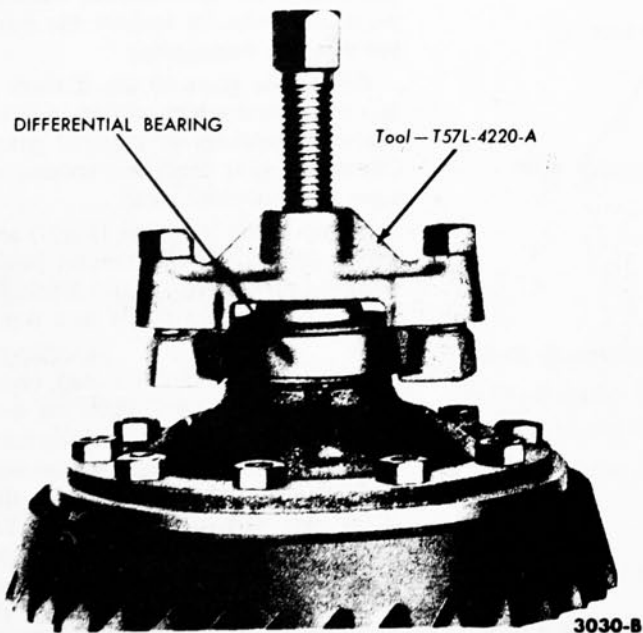

FIG. 6—Differential Bearing Removal
3. If the differential bearings are to be removed, use the tool shown in Fig. 6.